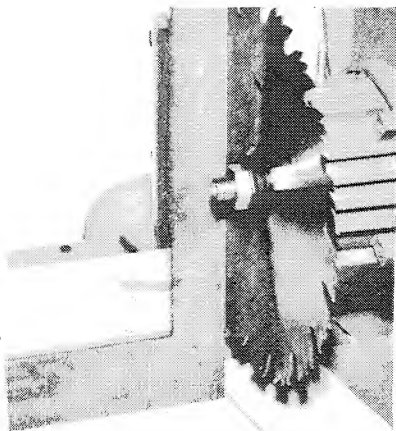

Figure 12
- (c) Elevate the low sections to the same elevation as the highest and (1) tighten all locking nuts at both sides of the table frame, (2) tighten locking nuts at center cleat.
8. ADJUSTING BLADE PERPENDICULAR TO WORK TOP (figures 12 and 13)